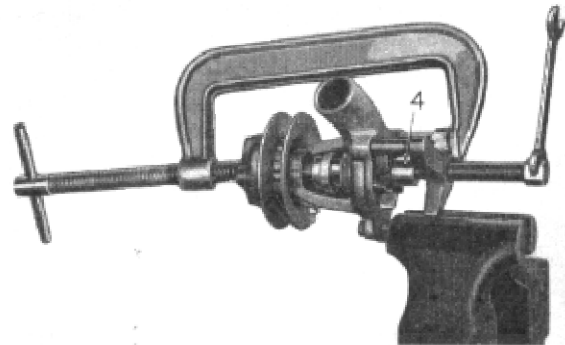

Figure 11
(12) Put front thrust washer on pump shaft and insert shaft through bearings from front. Clamp shaft in assembly with large C clamp as shown in Fig. 11 or by placing in jaws of vise. (If vise is used, protect machined face of pump housing against damage.) Put rear thrust washer and impeller on shaft. With pilot (4) in place, tighten screw to press impeller on shaft. Back off screw and remove fixture from pump.